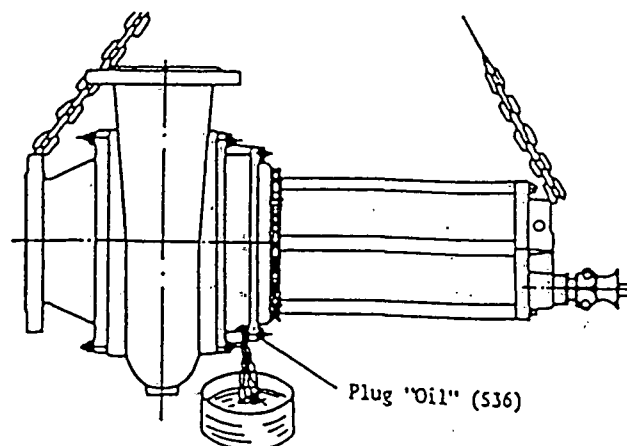

Fig. 12
Remove plug "oil" (536) and drain oil chamber housing (504) completely, by turning the pump around slowly until plug "oil" is upside down (see Fig. 12). On motor sizes 3, 4 and 5 there may be another plug directly below the "oil" plug on the backplate (507) close to the flange that attaches the pump casing to the motor; opening this plug will help remove the last bit of oil (see Fig. 12).